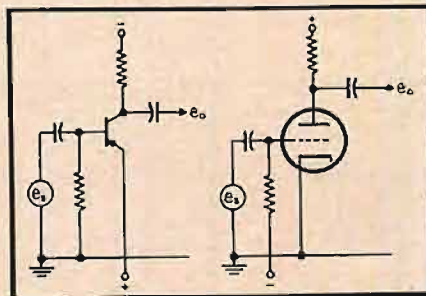

Fig. 4. The grounded-emitter circuit is the dual of the grounded-cathode amplifier.
**Grounded Emitter.** Figure 4 shows a popular type of transistor circuit for attaining good voltage amplification. Gains as high as 46 db are possible, and the circuit exhibits a 180-deg. phase reversal at its output, making possible the application of negative feedback around it without resorting to transformers. The input and output impedances are
Fig. 2. Test connections used for making pictures of Figs. 4 and 7. For Fig. 6 the resistor was omitted. Pictures were approximately 10 in. wide and 7 in. high on a 20-in. picture tube, DuMont Type 233 oscilloscope, 3 feet from camera. 1/2 second exposure at f/3.8 on XX120 film. Sawtooth frequency as noted on each figure.